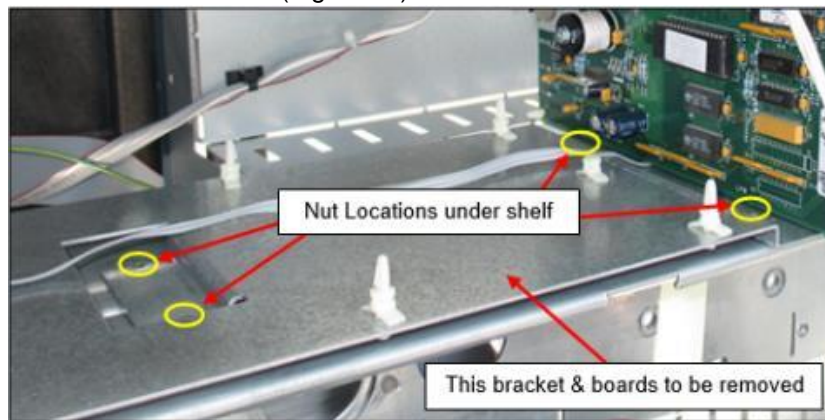

Fig 2.11b – Location of nuts under shelf (Regulator board not shown for clarity)
- c. Remove the four #8 nuts on the underside of the shelf that retain the steel bracket holding the Regulator and CPU boards. (Fig 2.11b)